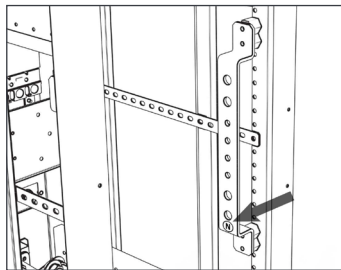

Figure 15. Neutral Bus Bar
Step 3. Terminate NEUTRAL connection to NEUTRAL bus bar (see Figure 15).